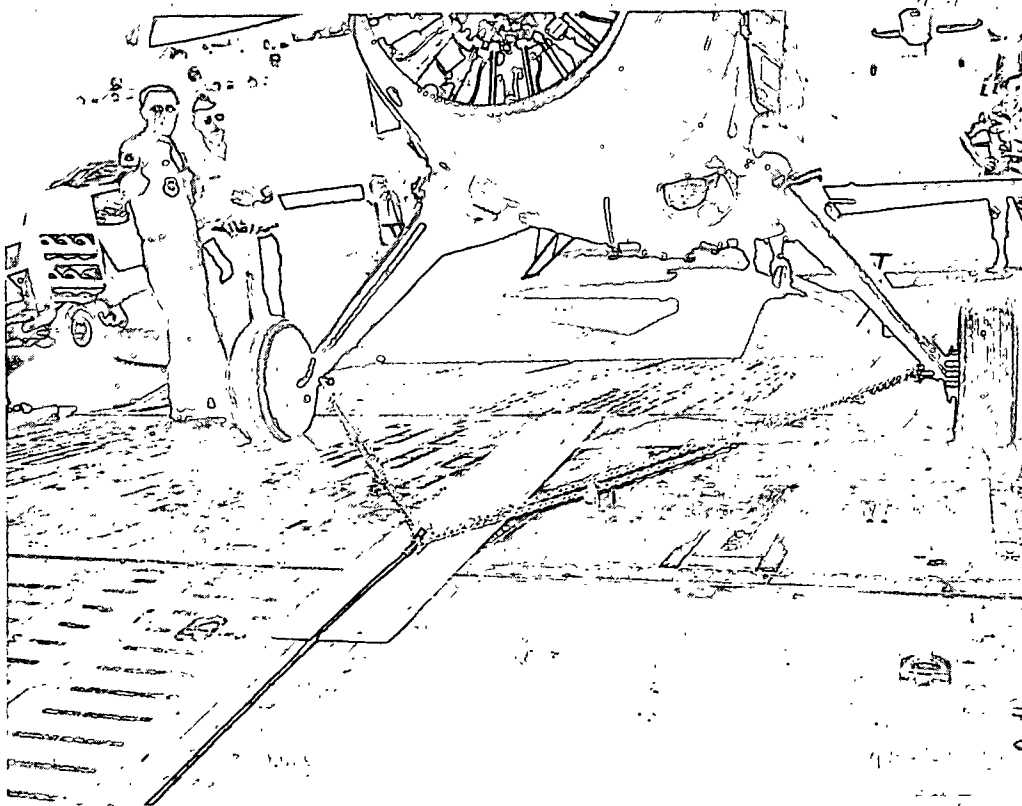

Figure 2-190. Towing the U-6 up the forward ramp. Note the plywood plank under the towing cable and formation of the towing bridle.
c. Three MB-1 tiedown device chains to form the towing bridle (fig 2-190). The towing bridle is attached to the inside axle housing as shown in figure 2-191.
a. Form the towing bridle and attach the C-5 winch cable to the bridle as shown in figure 2-190.